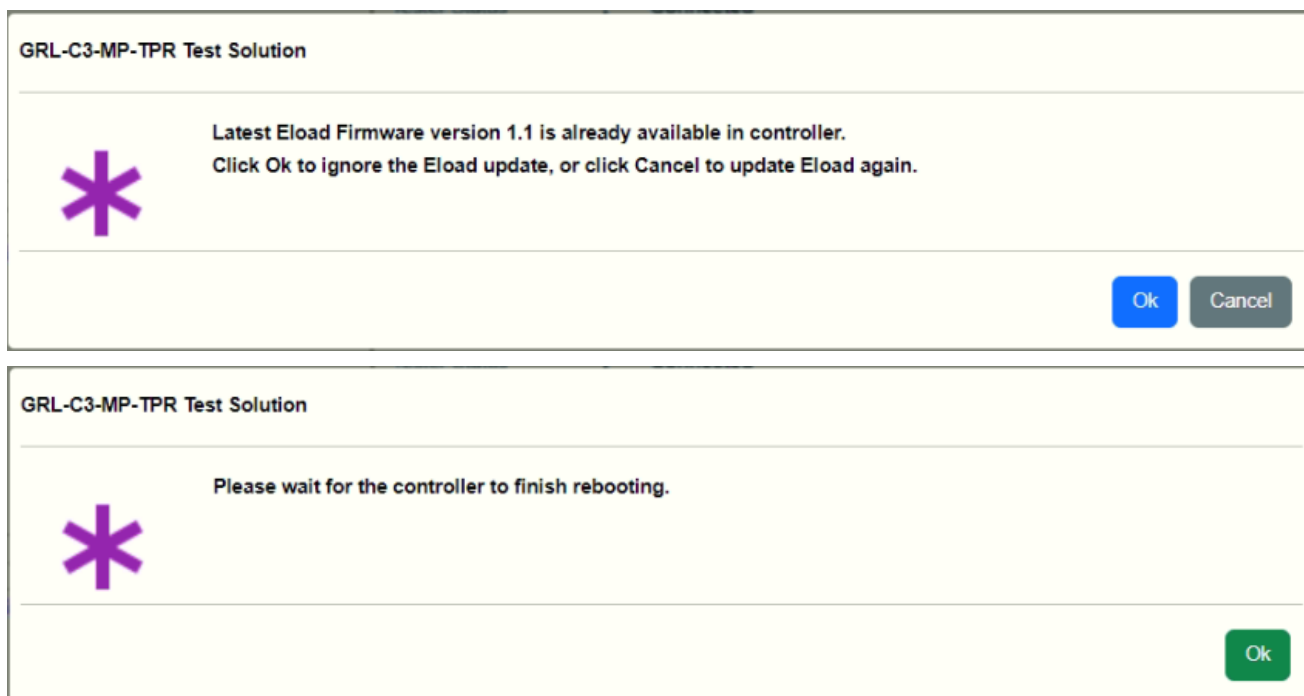

FIGURE 7.7: UPDATE GRL-C3-MP-TPR E-LOAD FIRMWARE
4. Once the E-Load firmware update process has completed successfully, click “Ok” for the GRL-C3-MP-TPR tester hardware to power cycle and reboot (Figure 7.7 below).